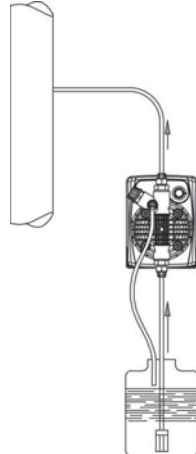
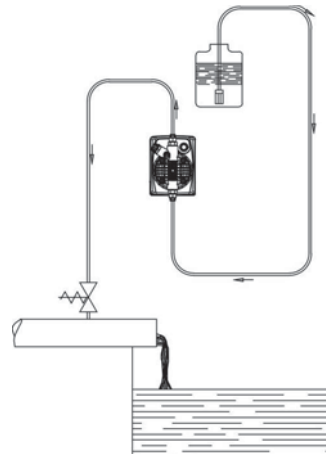

Fig. 5
Fig. 6
- c.- Install the pump in any way as shown in Fig. 5. If installed above the chemical tank, it is important that the pump height should not exceed the rated suction height, over the level of the chemical. When the process plant in which the pump is installed is operating at atmospheric pressure (no back pressure) and the chemical tank is situated above the plant (Fig. 6), the condition of the injection valve should be checked at regular intervals, because excessive wear and tear could cause additive to drip into the plant even when the pump is shut down. If the problem persists, install a properly calibrated counter-pressure valve (C) between injection point and the valve. In the case of liquids that generate aggressive vapours, do not install the pump above the storage tank unless the latter is hermetically sealed.